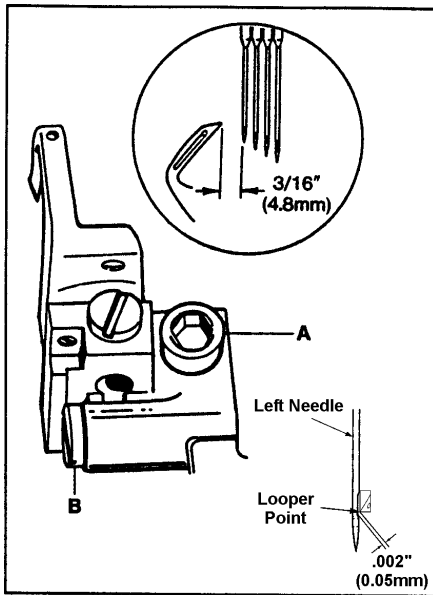

FIG. 15
Turn the handwheel in operating direction until the looper has traveled fully to the left. Loosen screw (A, Fig. 15) and move the looper holder to the right or left until the distance from the point of the looper to the center of the first (left) needle is $3/16$ " (4.8mm). Clearance between the looper point and the scarf of the needle must not exceed $.002$ " (0.05mm). Turn screw (B) until the $.002$ " (0.05mm) dimension is achieved. Tighten screw (A).